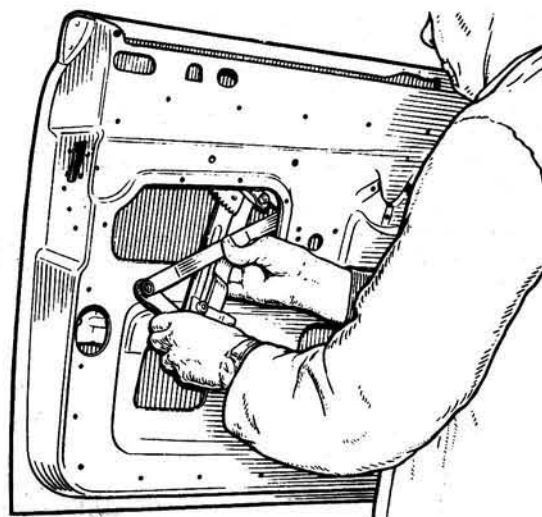

Fig.12.14. Removing the window winding mechanism
- 4 Withdraw the mechanism from the door frame as shown in Fig.12.14.